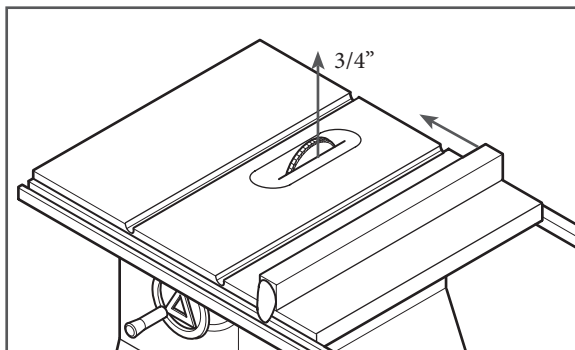

Figure 4
4. Set the table saw blade to a 3/4" depth (Figure 4).
5. Set the fence to cut just inside one of the outer lines (Figure 4).